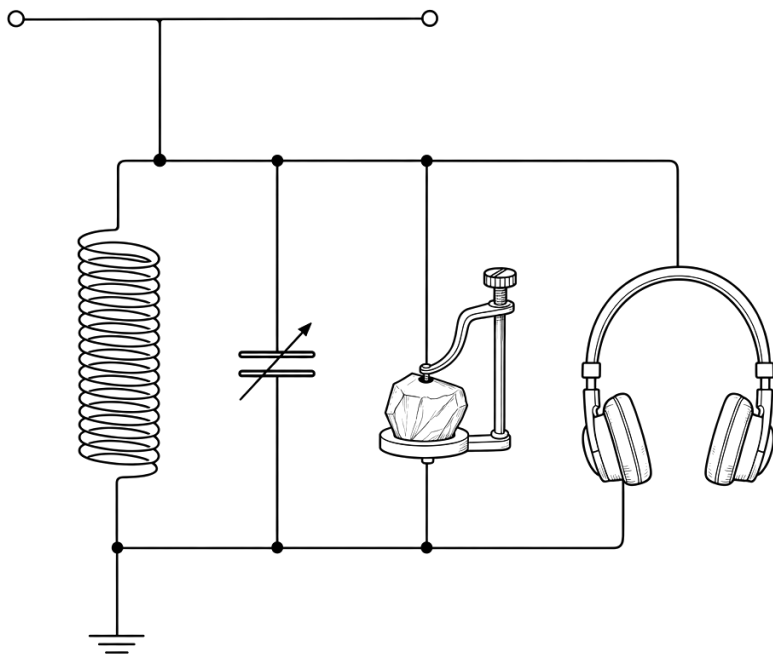

Figure 4.5. Frontispiece, facing the next chapter opening.
- 4.3 **Figure 4.5.** Frontispiece, facing the next chapter opening. . 14